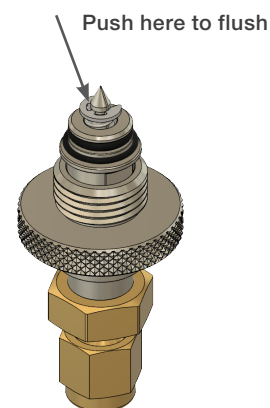

Figure 3. Inlet connector
5. Turn the carrier gas on and flush the inlet connector (see Figure 3) with pure carrier gas.